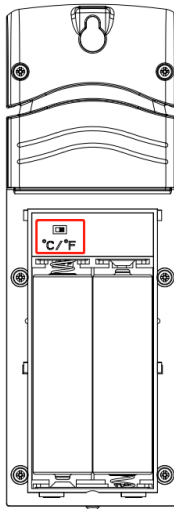

Figure 10a
3. This sensor is also capable of displaying in Celsius or Fahrenheit by using the switch under the battery door. As shown in Figure 10a.